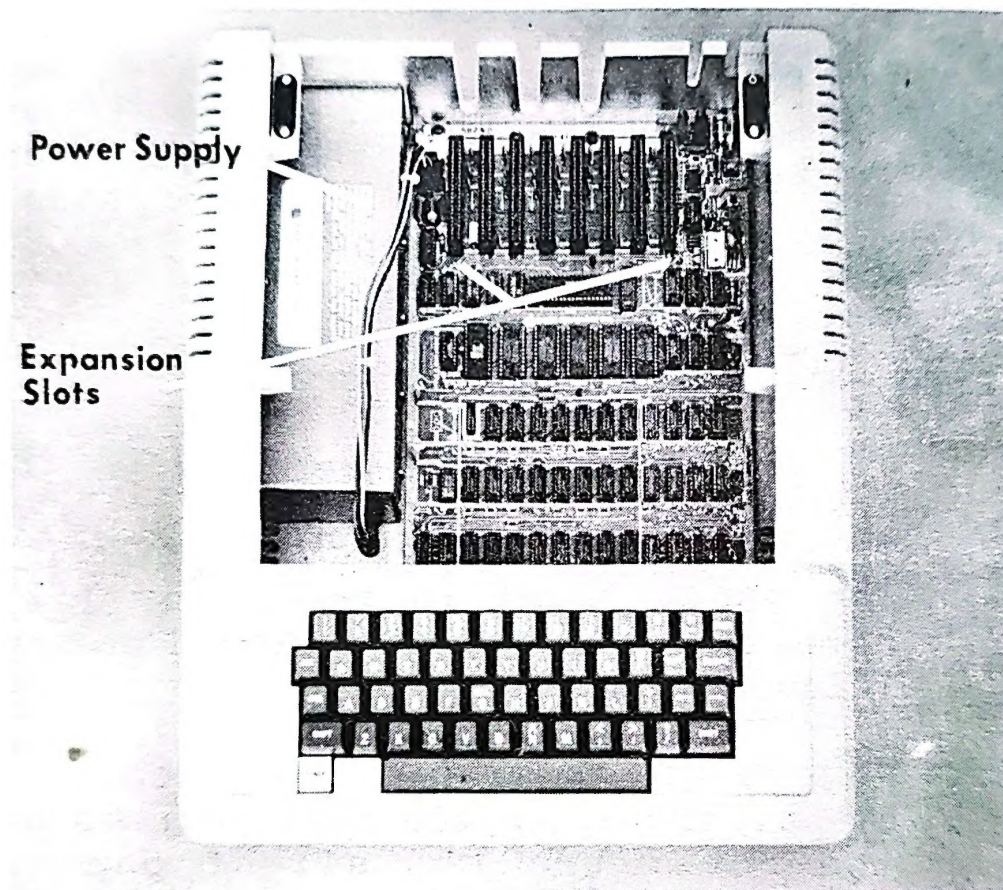

Figure 1
4. Position your Apple ][ computer comfortably in front of you with the keyboard nearest you. Familiarize yourself with the various interior components of the Apple ][ computer. See Figure 1 for details. These will be referred to in later installation steps.